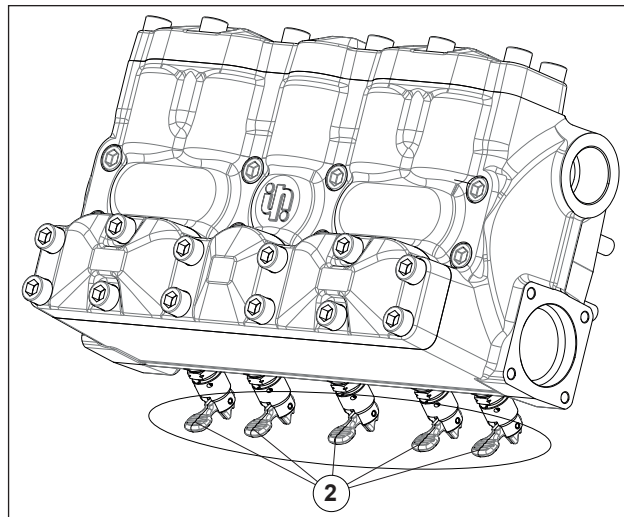

Fig. 11
In case of prolonged storage or long-term inactivity, you need to restore the proper functioning of the suction valves by opening the three valve-lift devices (see pos. ② Fig. 11). Make sure you have closed the valves before starting the pump.